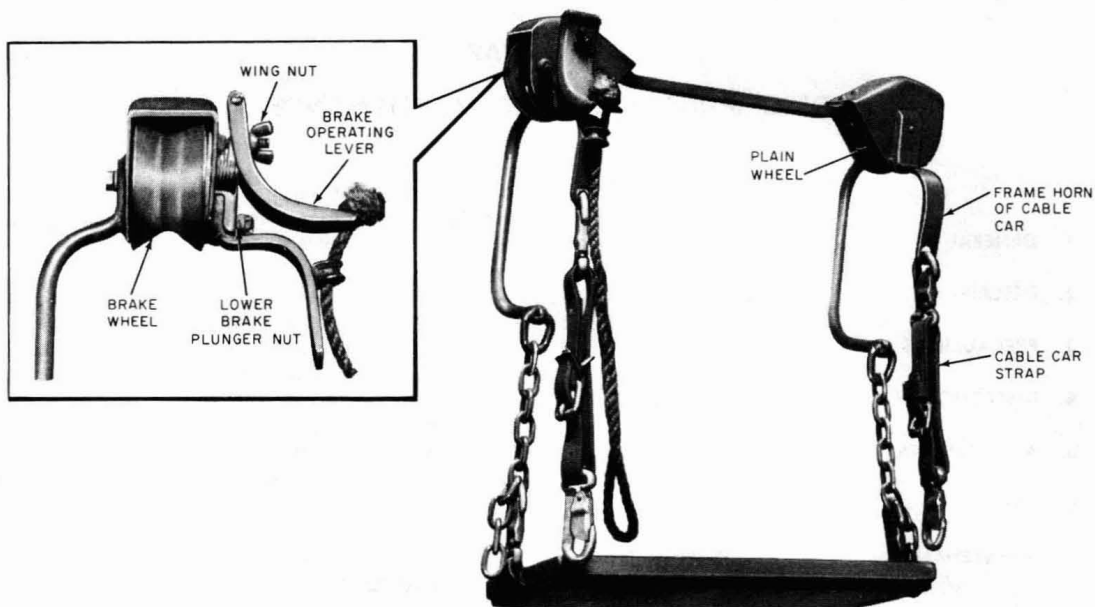

Fig. 1—Cable Car Straps on Cable Car Frame Horn
2.01 The Cable Car consists of a metal frame suspended from two trolley-type wheels, and equipped with safety straps and a suspended wooden seat which is adjustable in height (Fig. 1).
5.02 The lengths of the cable car straps are adjustable to suit the size of the rider and the nature of the work to be performed. One strap should be snapped to each frame horn of the cable car before leaving the ground (Fig. 1).